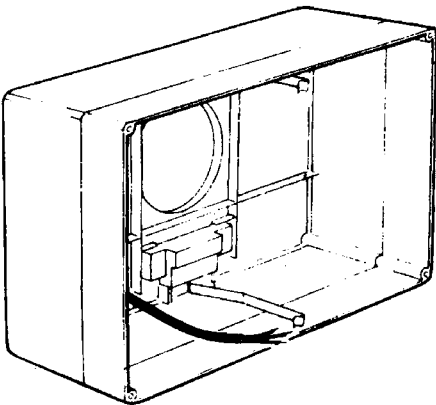

Fig. 4. Cable entry
- c) Position the case in the mounting position, connect to the ductwork and feed the supply cable through the cable entry. Fig. 4.